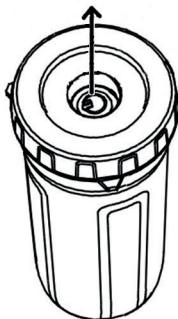

Fig 19
- Open the silicone valve on the vacuum lid to release the vacuum pressure from the bottle (13). Fig 19.